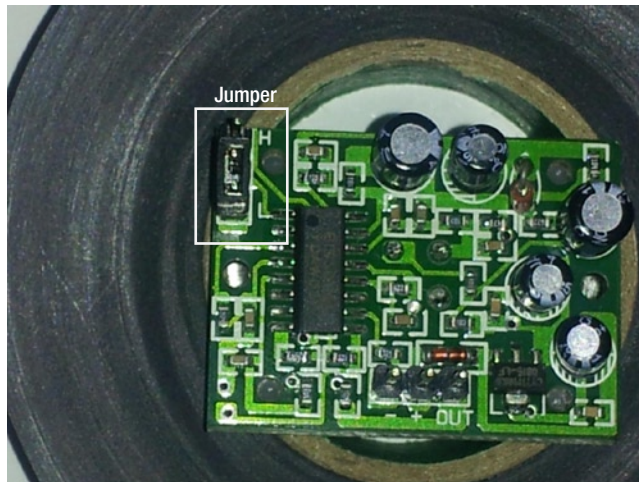

Figure 19-3. Make sure the jumper is on the right setting
1. Make sure that the jumper on the PIR sensor is set to the L setting. Figure 19-3 illustrates this process.